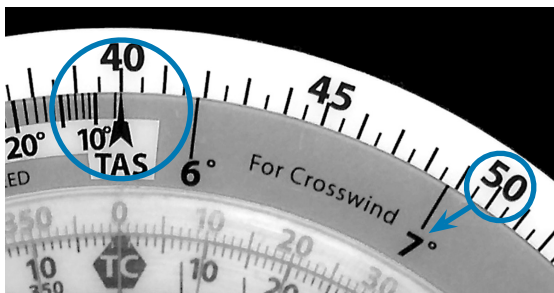

Figure 28.
1. Set the miles flown (40) opposite the TAS index (see Figure 28).